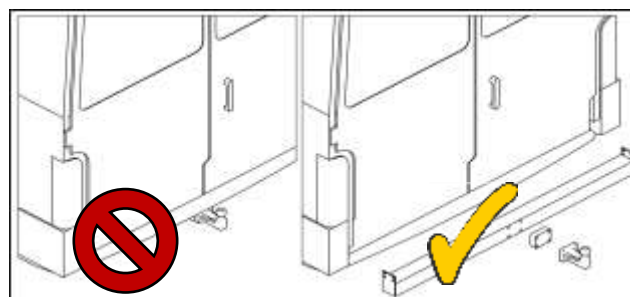

Fig. 11
- If a trailer hitch or step is mounted on the vehicle, remove it (see Fig. 11)